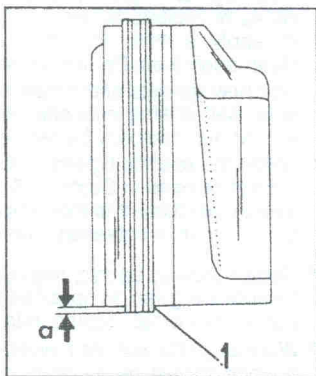

Fig. 1.15. — The side seals (1) for the front and rear main bearing caps must be proud on each side (a) by the dimension given in the text.
- Fit the two side seals to the cap with the seal groove outwards and check that the dimension "d" in Fig. 1.15 is 0.2 mm (0.008 in.).